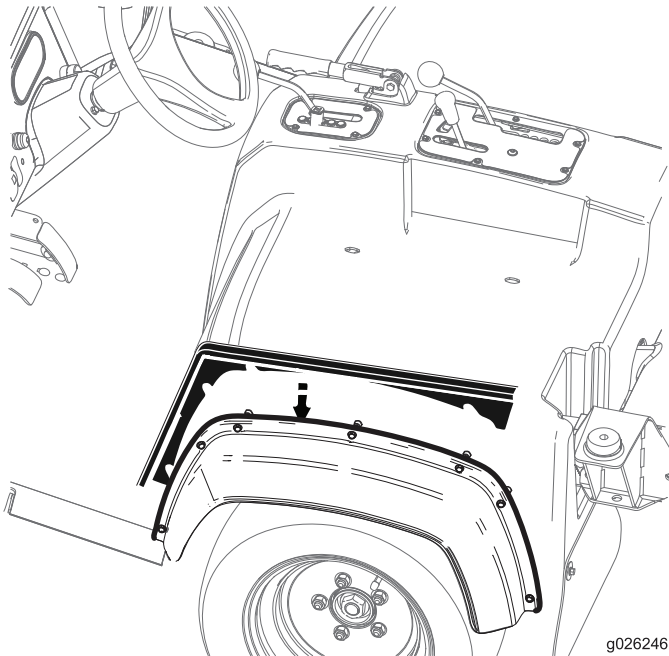

Figure 24
2. Slide the side-plate panels between the seat shroud and side fenders as shown in Figure 24.